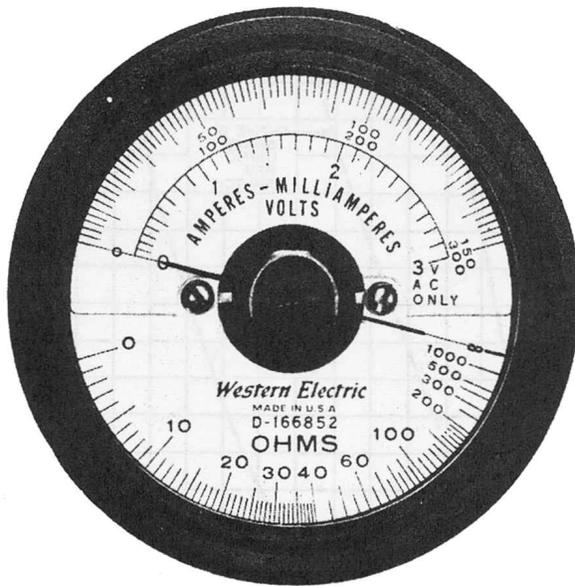

Fig. 5 - M9B Meter - Face View
2.03 The dial (Fig. 5) is circular, with the current and voltage scales on the upper half of the dial and the nonlinear resistance scale on the lower half. The double-ended pointer is pivoted at the center. One end of the pointer travels over the upper scales; the other end of the pointer sweeps over the lower scale. This provides a complete separation of the nonuniform resistance measuring scale from the markings for the current and voltage measuring scales, which makes the scales easier to read than the conventional type meter which has all scales grouped under one pointer. The pointer swings from zero on the left, to full scale on the right, on all scales. Instead of the conventional arc of 90 degrees, the pointers swing through a 150-degree arc from zero to full-scale readings. The outside scales are approximately 2-3/4" long.
3.03 Two scales, inner and outer, appear on the top half of the meter face. A single scale for resistance measuring, calibrated in ohms is on the lower half. Fig. 5 shows the meter scales in detail.
3.06 The resistance scale (lower half of the dial (Fig. 5)) is read directly in ohms if the test cords are connected to X and R (0-1000-ohm scale). If the test cords are connected at X and Rx10, the scale reading should be multiplied by ten; if the connections are at X and Rx100 multiply the scale reading by 100; if connections are at X and Rx1000, multiply the scale reading by 1000.